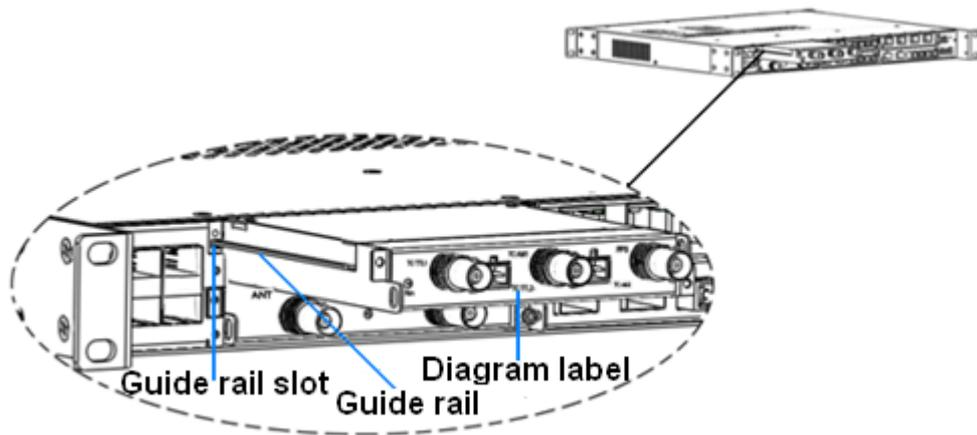

Figure 3 Module Installation 1
Step 1: Place the module with the diagram label facing up. Insert the guide rail of module into the guide rail slot, as shown in Figure 3, and then push the module in along the guide rail slot until the module is in close contact with the switch.